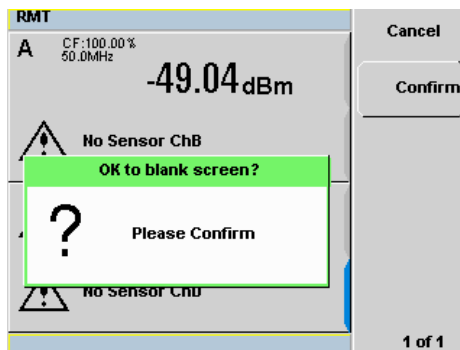

Figure 2-51 Password reconfirmation pop-up
- 8 When the correct password is successfully entered for the second time, you will be prompted for confirmation before the screen is blanked (see Figure 2-51). Press **Confirm**.